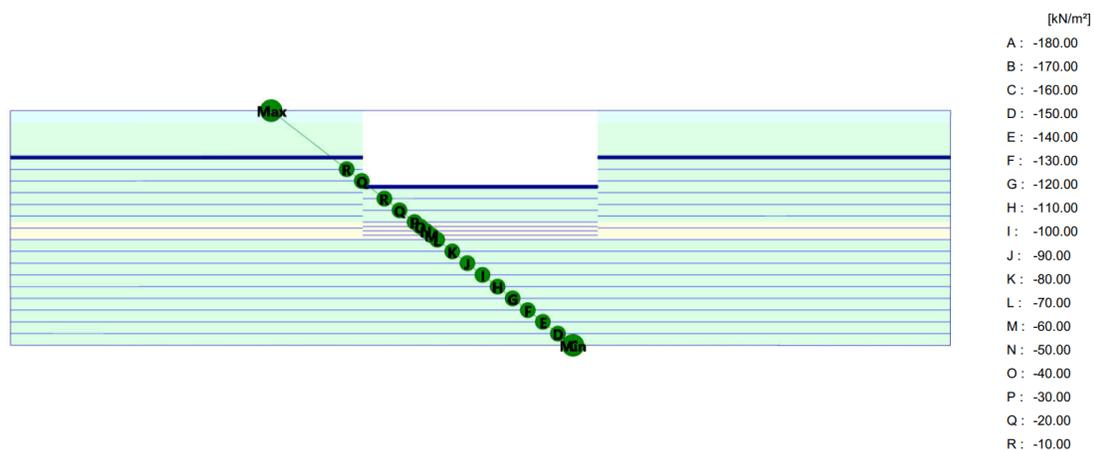

Figure 35: Preview of the steady state pore pressures in Phase_4 in a cross section
26.  Display the contour lines for steady pore pressure distribution. Make sure that the **Legend > View** option is checked. The steady state pore pressure distribution is displayed in Figure 35 (on page 55). Scroll the wheel button of the mouse to zoom in or out to get a better view.